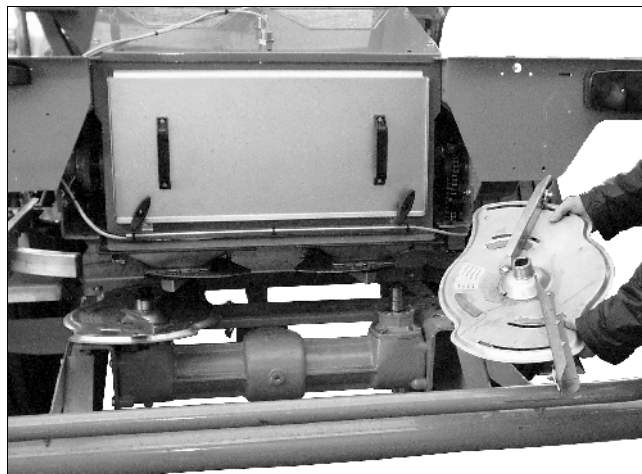

Fig. 49
- Remove the M10 hexagonal bolt (Fig. 49/1) lösen.
- Fix spreading disc – the spreading discs to the gear shafts of the twin disc sprading unit and bolt in place using M10 hexagonal bolts (Fig. 49/1) by tightening the thumb nut..